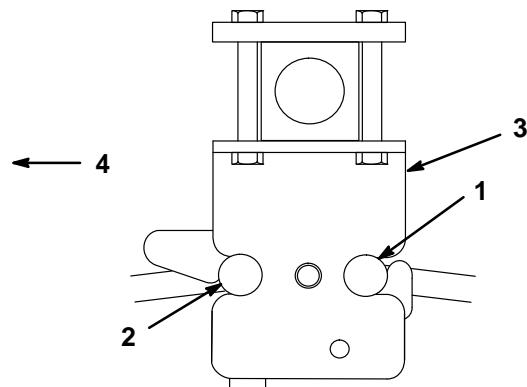

Figure 13
- Place the tiller hitch bar into the slots in the rear of the rear Attach-A-Matic™. Press on the latches at the rear until they lock both the tiller and the jack shaft assembly in place (Fig. 13).